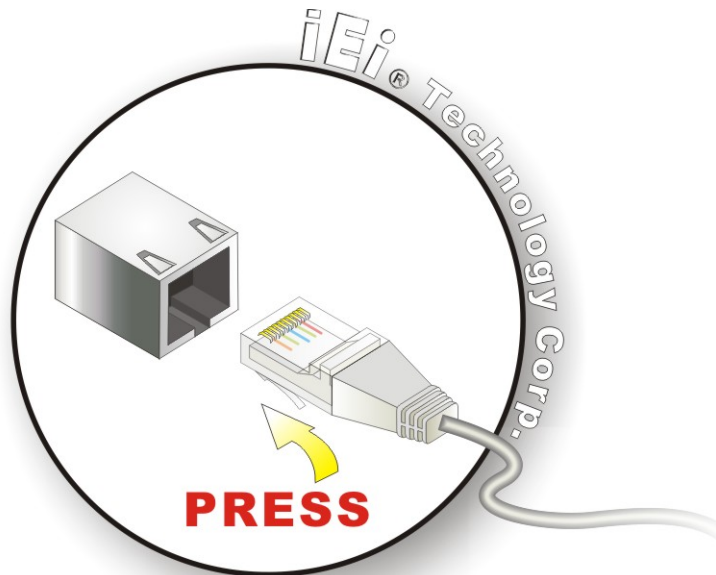

Figure 4-16: LAN Connection
Step 2: **Align the connectors.** Align the RJ-45 connector on the LAN cable with one of the RJ-45 connectors on the KINO-945GSE3. See Figure 4-16.